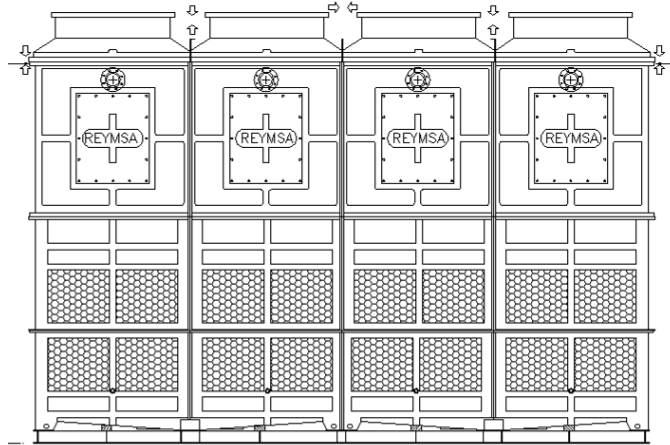

Figure A-31: Tower Cover Section Installation
- M. Proceed to place remaining **Tower Cover Sections**, making sure that the bolt holes are aligned. Bolt together the vertical flanges between each Tower Cover Section using first the galvanized steel bolts and nuts (supplied by REYMSA) to join sections. Then replace the galvanized steel bolts with the stainless steel nut and bolt sets supplied by REYMSA. Proceed to bolt down and secure the horizontal flanges between each Tower Cover and its corresponding Tower Body (Tower Cover 1 to Tower Body 1, etc) with the stainless steel nut and bolt sets supplied by REYMSA, until all Tower Cover Sections are installed (See Figure A-31).